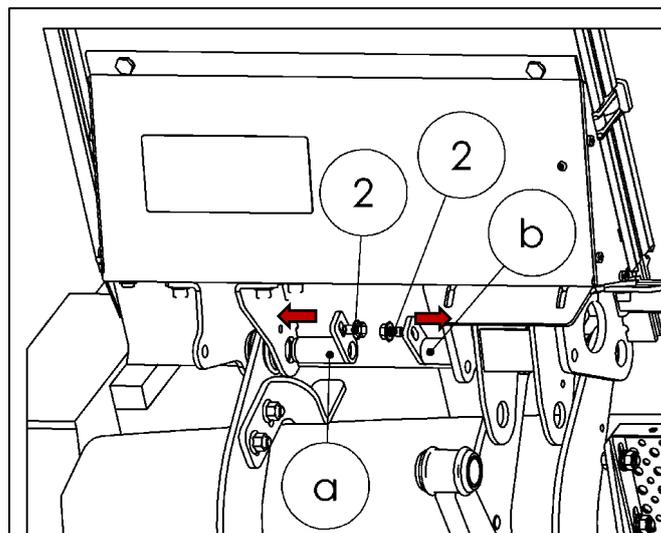

Figure 55
**IMPORTANT:** Note the direction of insertion (see Fig. 55).
- Mount the bolts from the accessories kit (2) to secure the pins and tighten them to 70 Nm.